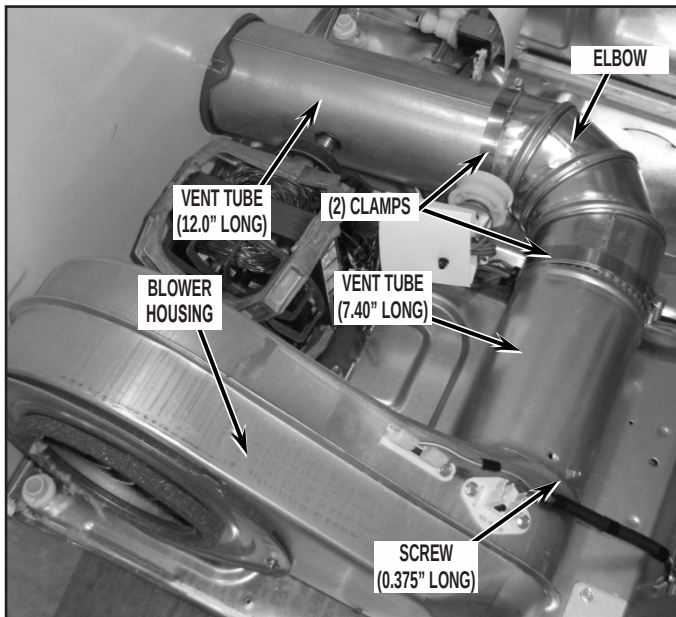
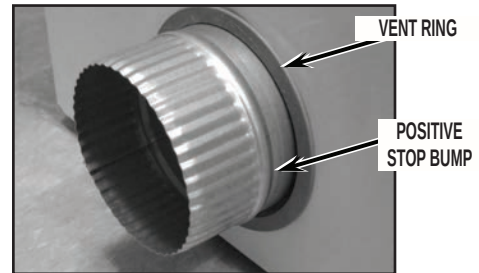

FIGURE 30
FIGURE 31
5. Attach the 305 mm (12.0") long vent tube and elbow from kit together using clamp included in kit. Tighten clamp to hold sub assembly together. See *Figure 30*.
6. Insert the sub-assembly from Step #5 (or 5A) into the left side knockout hole, rib-end facing out. Slide a clamp onto the elbow and attached elbow end to the 187 mm (7.40") vent tube already in the dryer. See *Figure 30 (or 30A)*.
7. From the outside of the dryer, install the vent ring included with kit by sliding over exhaust vent tube and snap into place. See *Figure 31*.
8. Assure the positioning of the exhaust vent assembly, making sure the positive stop bump on the 305 mm (12.0") long vent tube is on the outside of the dryer. See *Figure 31*. Securely tighten both clamps. See *Figure 30*.